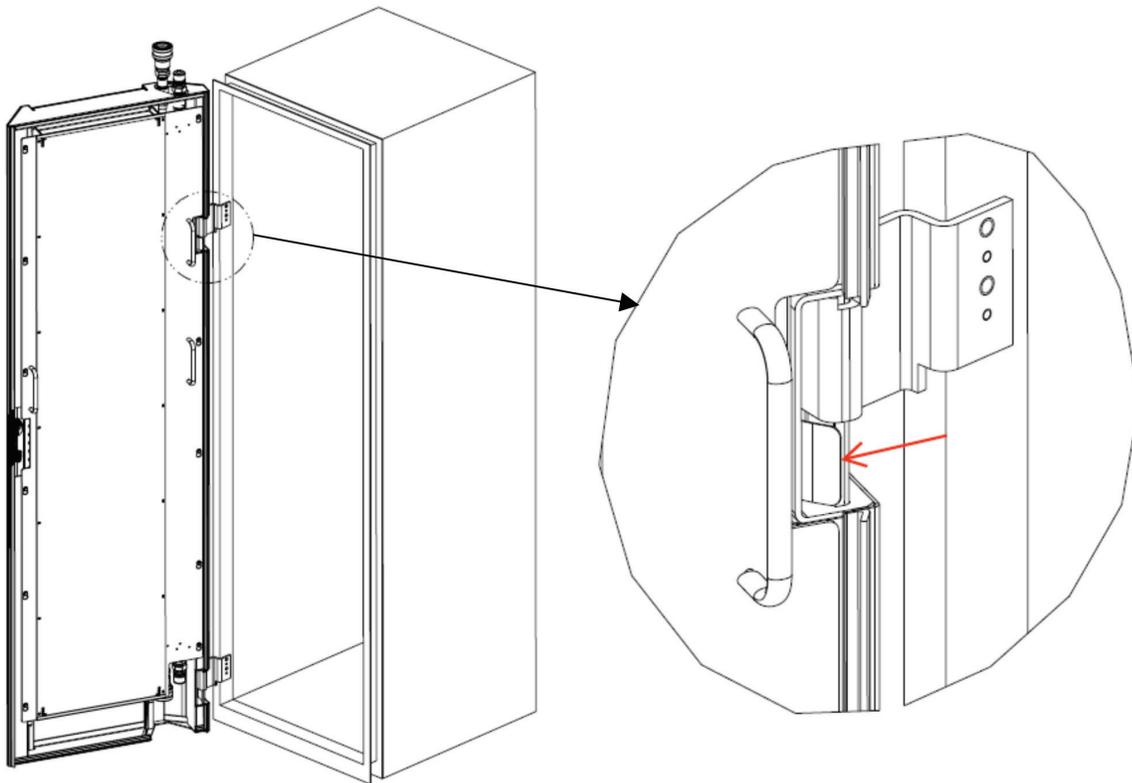

Figure 4-3. Removing the door assembly.
4. The hinge retention spring in the top hinge pocket on the HTD assembly must be depressed toward the lifting handle to allow the HTD assembly to be lifted off the hinges. While grasping two lifting handles, use one finger to pull the spring toward the lifting handle (Figure 4-3).